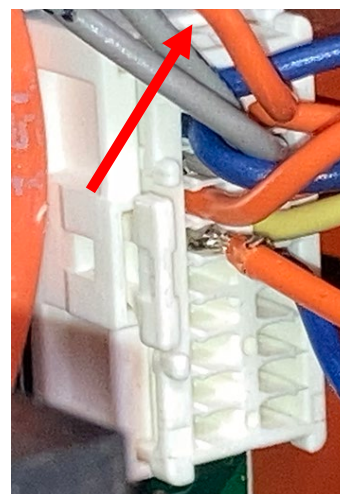

Figure 27
- i. Insert the orange wire directly to the left of the yellow wire, on the J1 vertical connector attached to the SIB board (see Figure 27).